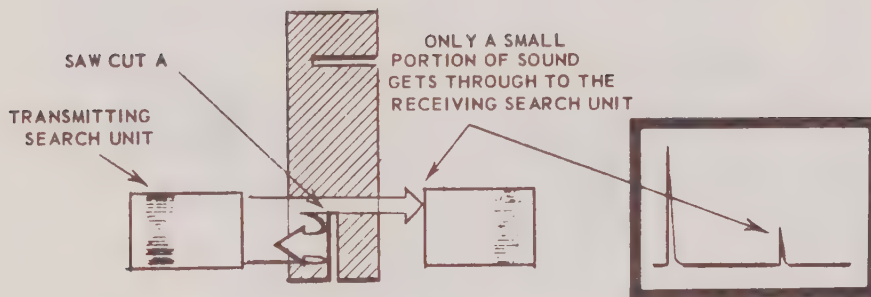

Figure 3-34 Received CRT Waveform
- (2) Position search units so that the sound is directed at saw cut A. (Figure 3-34) Note that the indication from the received signal is reduced in size according to the amount of sound cut off by the saw cut (plan view).